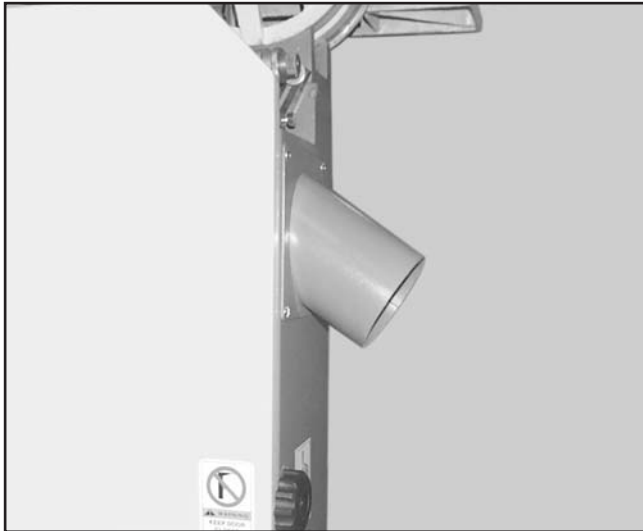

Figure 8. Dust port installed.
1. Place the dust port on the saw as shown in **Figure 8**.